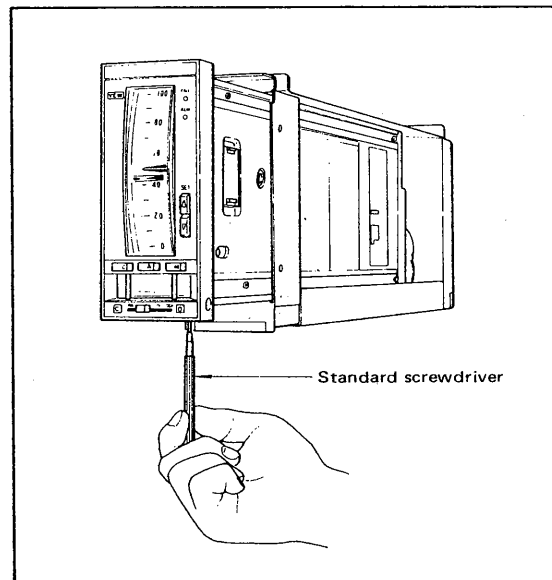

Figure 6-2-4. Adjusting Zero Point of Output Indicator.
- (3) If the pointer is not within this tolerance range, turn the zero adjustment screw as shown in Figure 6-2-4 until the pointer is aligned with the center scale mark.
- (4) Change the input signal to 1.0 V, 2.0 V, 4.0 V and 5.0 V DC in turn, and make sure that the pointer aligns respectively with the 0%, 25%, 75% and 100% scale marks. The tolerance is  $\pm 2.5\%$  of the span (1/2 of a scale division).
- (5) If the indication is not within this range at any position, input 3.0 V DC, and adjust the indicated value within the tolerance range.
- (6) Repeat step (4). Repeat steps (4) and (5) as necessary until all points fall within the tolerance range.